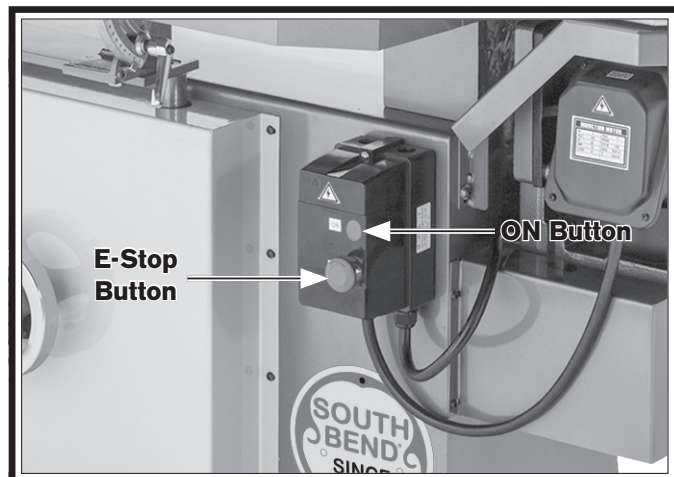

Figure 26. Power control components.
3. Press E-Stop button in (see **Figure 26**).
6. Use ON and E-Stop buttons (see **Figure 26**) to start and immediately stop machine, while watching how belt tracks on drums. Belt "tracking" refers to belt positioning on drums when belt rotates. When tracking properly, belt remains centered on drums as they rotate.